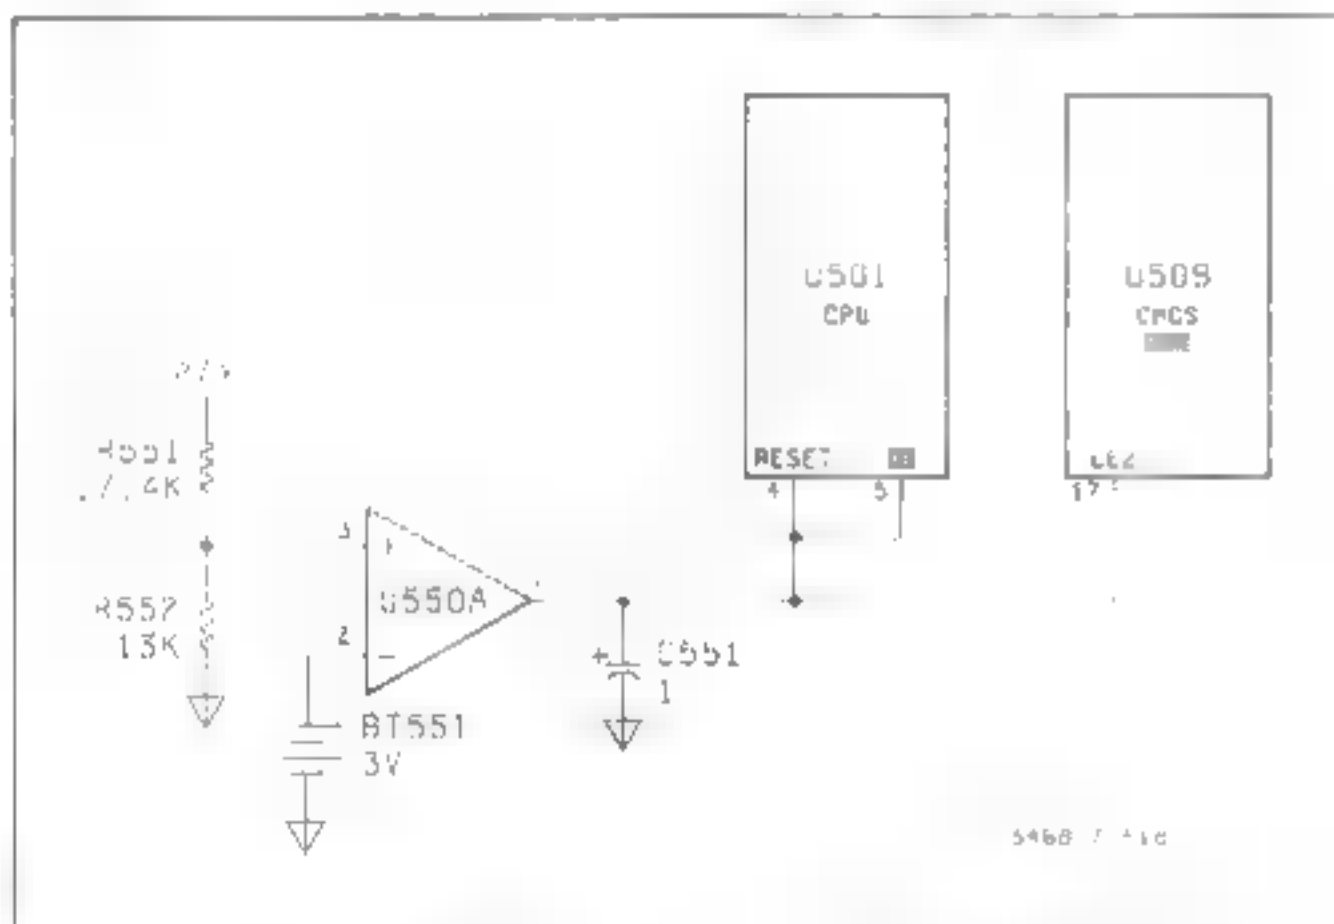

Figure 7-F-18. Power-On Circuitry
a. **Power-On Circuitry.** Refer to Figure 7-F-18 or Schematic 3. The Power-On Circuitry resets the CPU when the 3468A is turned on and when the >7V power supply (raw supply for the +5V supply) is low. The step by step operation is as follows: